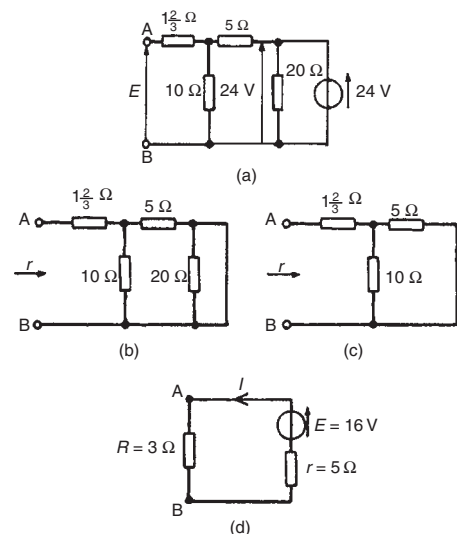

Figure 13.46
- (i) The 3 Ω resistance is removed from the circuit as shown in Fig. 13.46(a).
- (iii) Removing the source of e.m.f. and replacing it by its internal resistance means that the 20 Ω resistance is short-circuited as shown in Fig. 13.46(b) since its internal resistance is zero. The 20 Ω resistance may thus be removed as shown in Fig. 13.46(c) (see Section 13.4 (vi)).
From Fig. 13.46(c), resistance,
- (iv) The equivalent Thévenin's circuit is shown in Fig. 13.46(d), from which, current,